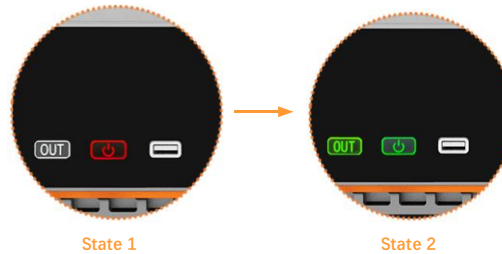

Figure 132 Reset Process Diagram
Step1: The power/reset button indicator light turns red, and the State display area shows a protection State, see Figure 132 State
Step2: Briefly press the power/reset button, and the output button indicator light starts flashing. The reset action is completed when both the power/reset button indicator and the output button indicator turn green, and the State display area changes from protection State to standby State, see Figure 132 State 2.